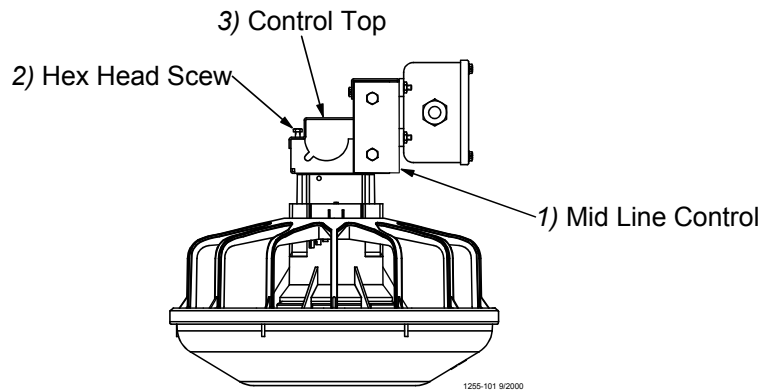

Figure 47. Mid-Line Control Installation
- Assemble the Mid-Line Control to the Feeder Tube as shown in **Figure 47**.
- Attach the Switch Box Assembly to the Feeder Tube with Hose Clamps as shown in **Figure 47**.